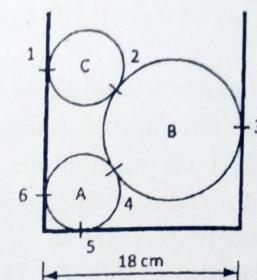

Fig 2.30
3) Three cylinders are piled up in a rectangular channel as shown in Fig 2.30. Determine the reaction at point 6 between cylinder A and the vertical wall of the channel. (Cylinder A : $R_A = 4 \text{ cm}$, $M_A = 15 \text{ Kg}$, Cylinder B : $R_B = 6 \text{ cm}$, $M_B = 40 \text{ Kg}$, Cylinder C : $R_C = 5 \text{ cm}$, $M_C = 20 \text{ Kg}$)